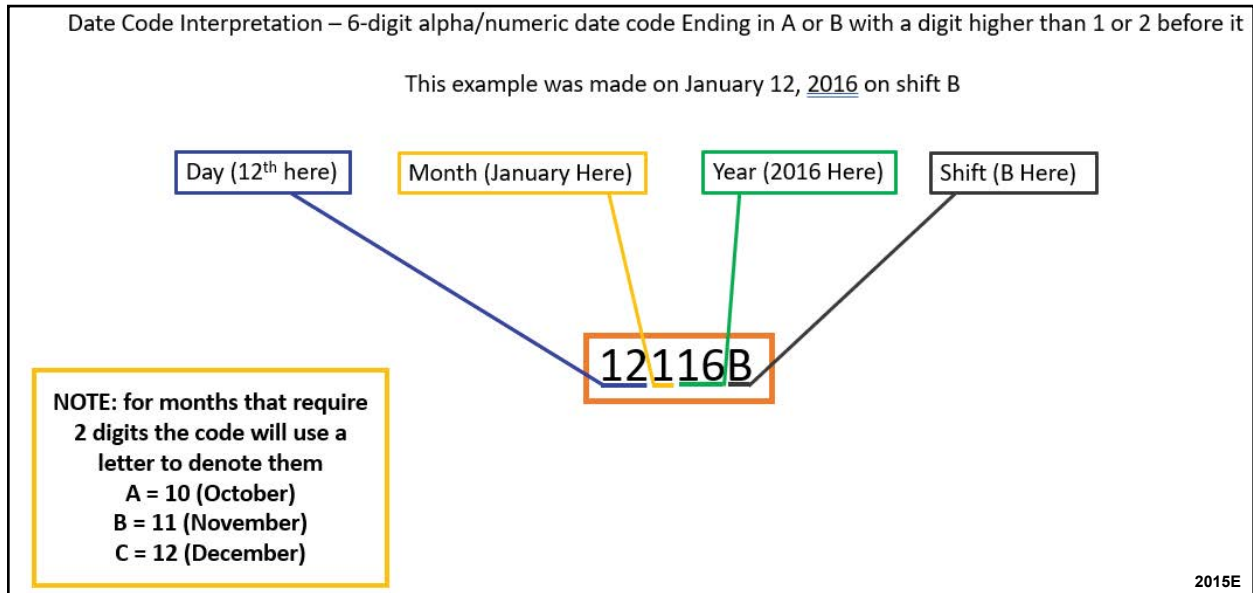

FIGURE 6
9. Using Figure 6 below decode the 6-digit alpha/numeric date code ending A or B. Record the decoded date and proceed to Step 10.